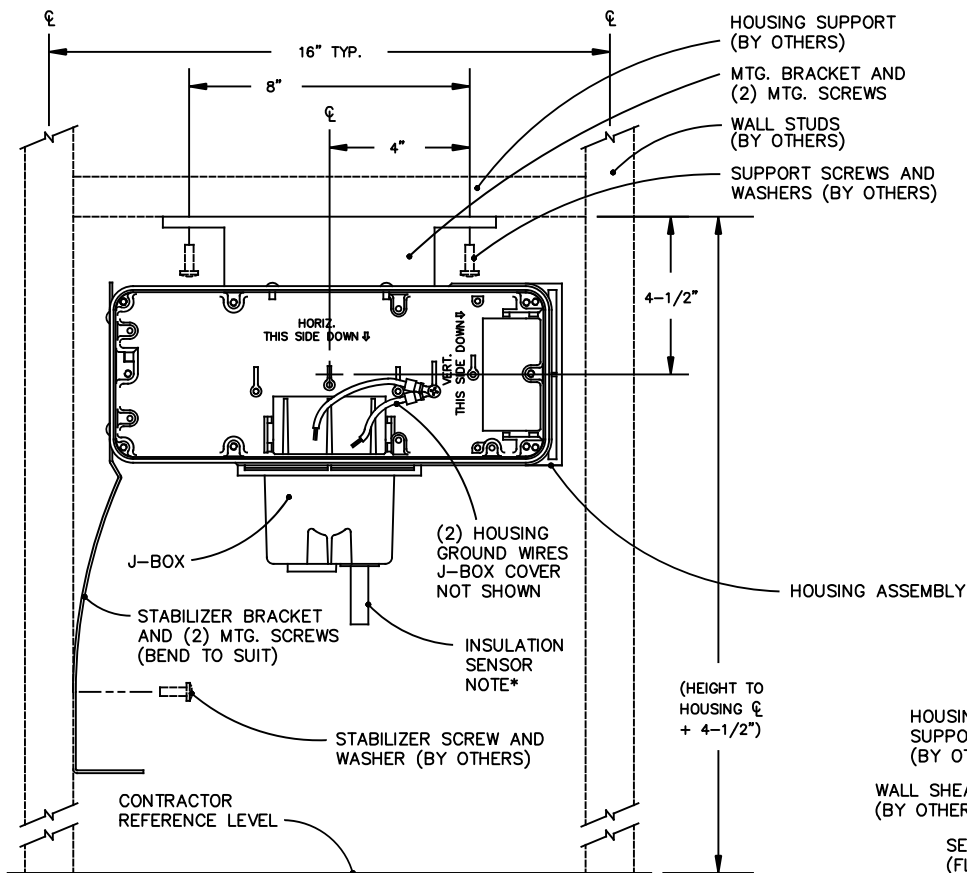

FIG. 1
2. Attach mounting bracket from mounting kit to housing per fig. 1 using screws on housing, open end of slots face towards rear of housing.
3. Attach stabilizer bracket per fig. 1 using screws on housing.
5. Use dimensions provided by site contractor and figs. 1 and 2 to pre-locate housing support. Suggest fabricating support using scrap wall stud material.
6. Position, level, and install the housing support from step 5 between wall studs per figs. 1 and 2. Insure support is level front to back as well as side to side.
7. Install support screws and washers, supplied by others, to housing support just installed. Locate and space per figs. 1 and 2 and site contractor dimensions. Do not fully tighten.